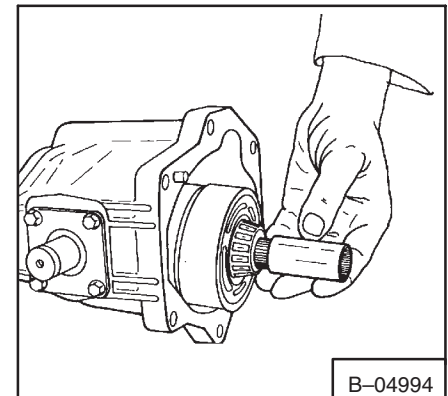

Fig. 3-150 Installing Coupler
3. Put the splined coupler on the drive shaft (Fig. 3-150).